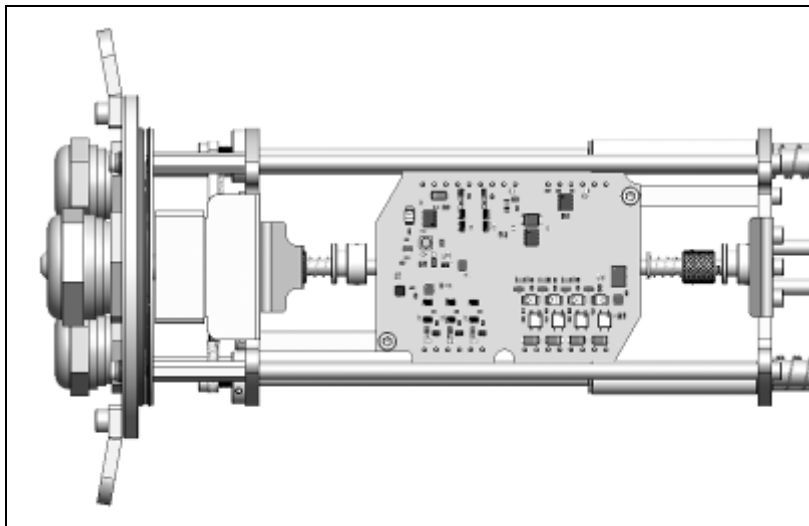

Figure 33: Mounting of the industrial PIF (top view)
5. Fix the industrial PIF with the screws (M3x5) as shown in **Figure 33**.